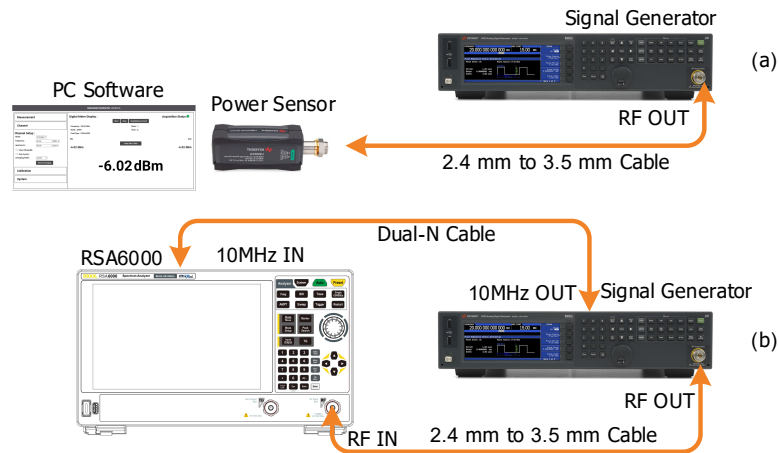

Figure 4.3 Absolute Amplitude Accuracy Test Connection Diagram
2. Connect the output terminal of the signal generator with the power sensor, as shown in *Figure 4.3 (a)*.
6. Connect the output terminal of the signal generator with the the input terminal of the spectrum analyzer, as shown in *Figure 4.3 (b)*.